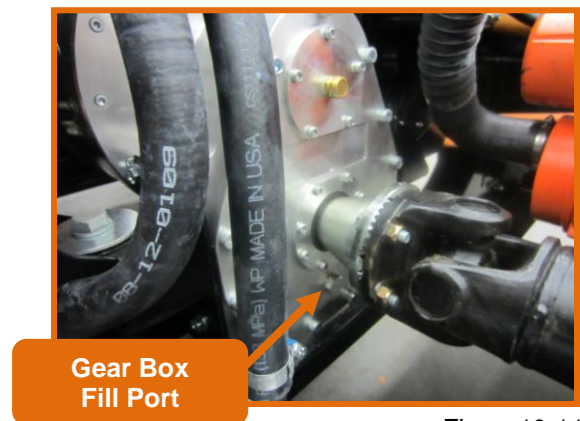

Figure 10.11
- ✓ Check oil level in Traction Motor Gear box. Oil level should be approximately ½ inch below bottom of fill port (Figure 10.11).